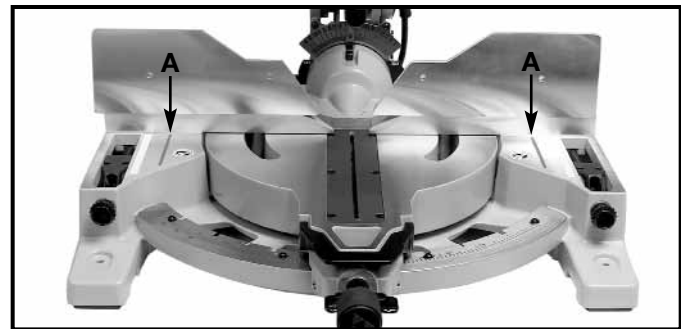

Fig. 21
⚠ WARNING THE AREA INSIDE THE TWO RED LINES (A) FIG. 21 ON THE TABLE IS DESIGNATED AS A HAZARD ZONE. **NEVER** PLACE YOUR HAND(S) INSIDE THE "TABLE HAZARD ZONE" (WITHIN THE RED LINES) WHILE THE TOOL IS BEING OPERATED. CLAMP ALL WORKPIECES WHICH WOULD CAUSE YOUR HAND(S) TO BE WITHIN THE RED LINES.
⚠ WARNING Keep your hands out of the hazard zone while operating the saw. If the size of the workpiece would cause your hand to be inside the table hazard zone (see section “TABLE HAZARD ZONE” SEE FIG. 21), use a clamp to secure the workpiece.